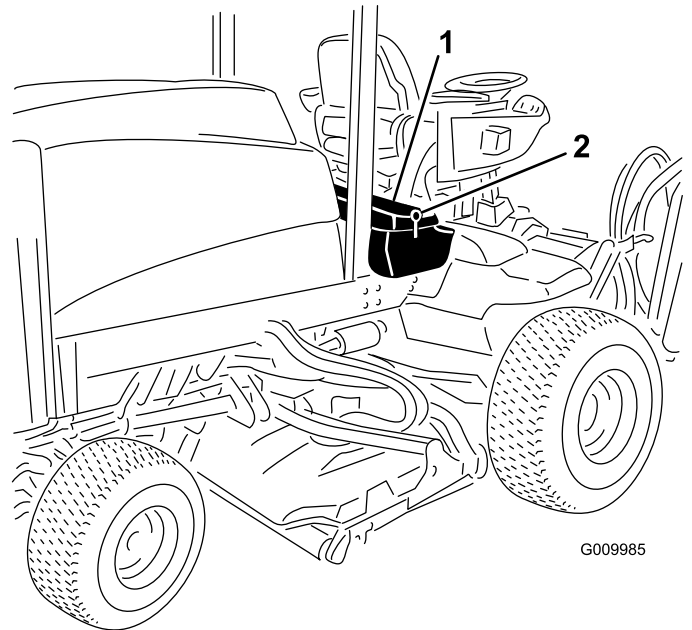
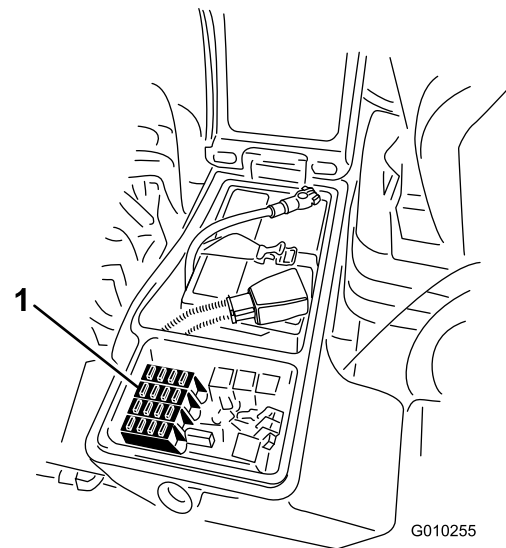

Figure 100
Figure 101
1. Loosen the latch for the cover of the right storage box and raise the cover (Figure 100).
1. Loosen the latch for the cover of the right storage box and raise the cover (Figure 100) to expose the fuse block (Figure 101).
2. Replace the open fuse(s) as needed (Figure 101).
3. Close the cover of the right storage box and secure the cover with the latch (Figure 100).